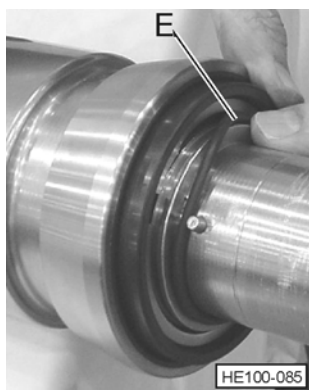

Figure 69 - Install Keeper O-ring
4. Install "keeper" O-ring (See Figure 69, Item E) on shaft to keep rotating parts assembled.